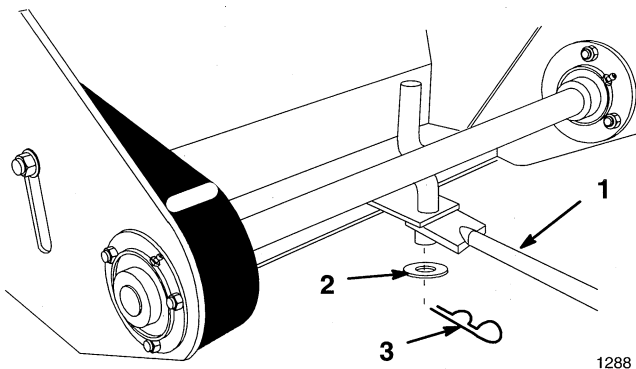

Figure 10
1. Install lift tube to housing with 5/8 flat washer and 3/16 hairpin cotter (Fig. 10).